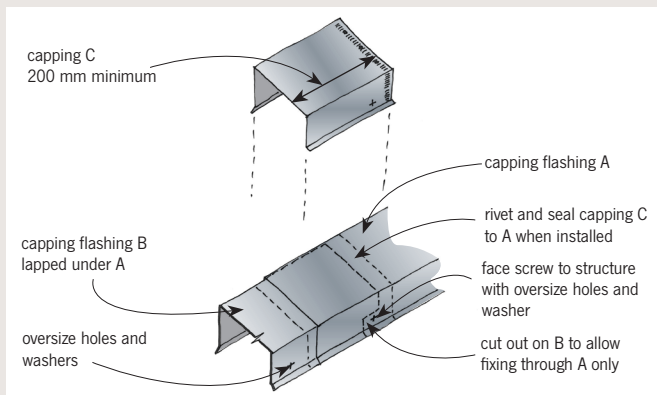

Figure 5: Flashing expansion joint adapted from E2/AS1.
- Overlapping materials to create a sliding joint. Bevelback weatherboards and board and batten accommodate movement in the building and the board widths because of the laps. The E2/AS1 metal flashing detail (see Figure 5) allows movement at the lapped and sealed joint in the flashing and with the overlap to the cladding.